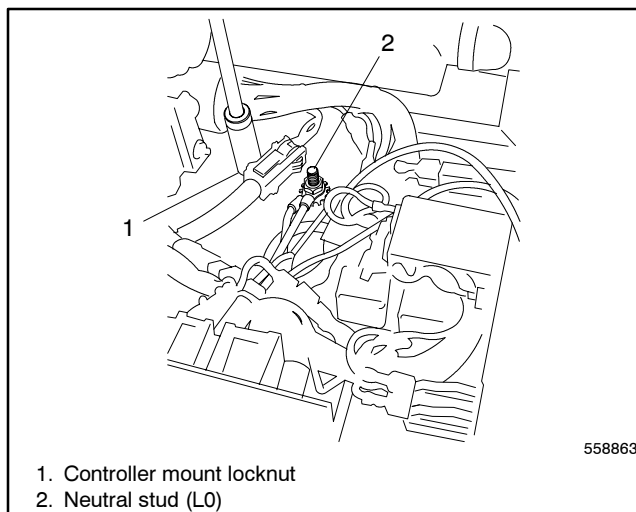

Figure 9-2 Controller Removal
6. Remove the four controller mount locknuts. See Figure 9-2.